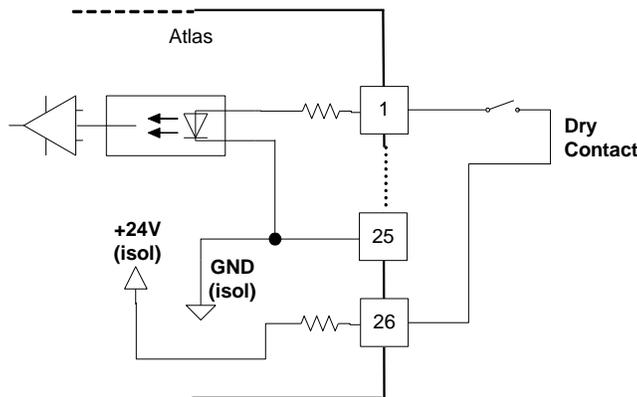

Figure 4-14. Wiring Example—Discrete Input Interface to the SmartCore CPU A5200 Board
- Refer to Figure 4-14 for discrete input wiring.